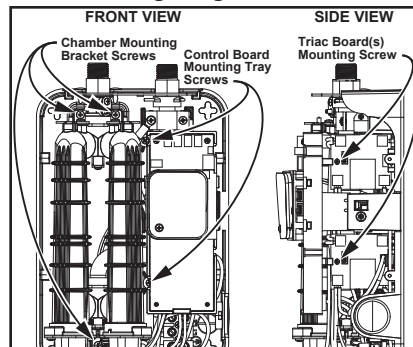

Figure 30 - Mounting screw locations.
**5** Locate and remove all the mounting screws (7 total) with a Phillips screwdriver. See Figure 30. **IMPORTANT:** In accordance with UL 499, DO NOT remove the lower mounting bracket screw securing the ground wire.
**6** Secure the chamber in place by reinstalling the three chamber mounting bracket screws. Hand tighten the Phillips screws in place, **DO NOT** over tighten. See Figure 30.